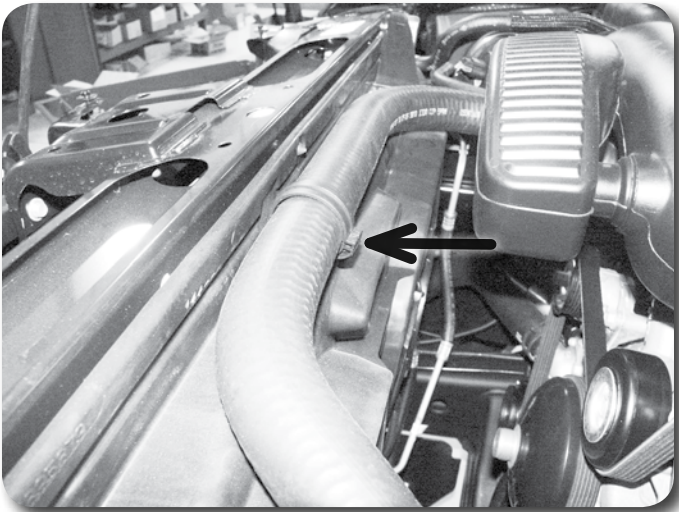

Figure 6
11. Disconnect the upper radiator hose from the retaining clamp at the top of the radiator **Figure 6**